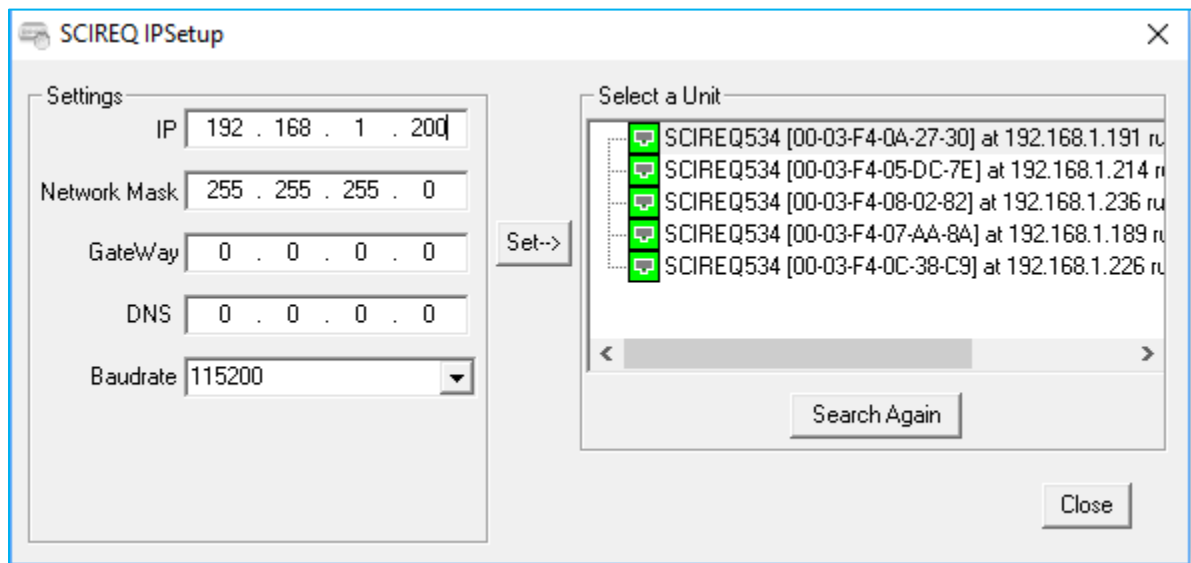

Figure 3-6: SCIREQ IPSetup dialogue box
- » Navigate to *C:\Program Files (x86)\SCIREQ\Utilities* and select the *IPSetup.exe*. This will result in the screen seen in Figure 3-6.